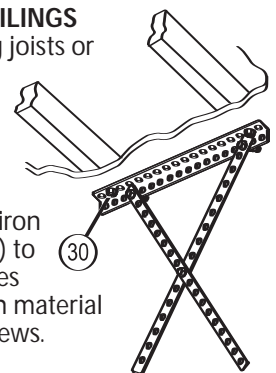

Figure 22 Mounting methods for open beam and finished ceilings
- C Install Mounting Straps and/or support brackets (angle iron not included) to joists or trusses and to mounting slots in Opener. Use (5/16"-18 x 3/4") Hex Head Bolt, (5/16"-18) Serrated Flanged Nut, and (1/4" x 2") Lag Screws as needed (Figure 22).